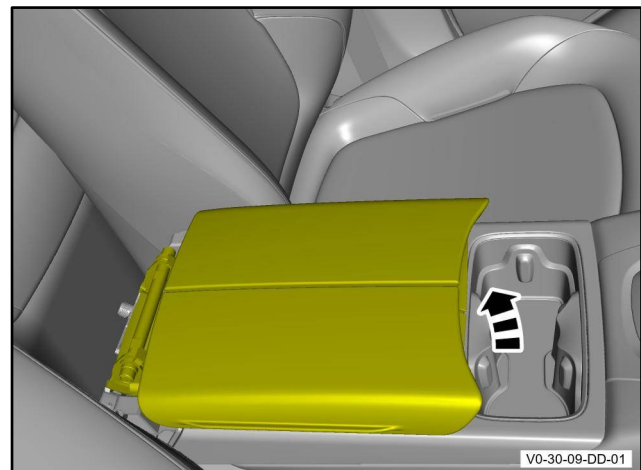

Figure 9
2. Open the arm rest (refer to Figure 9).